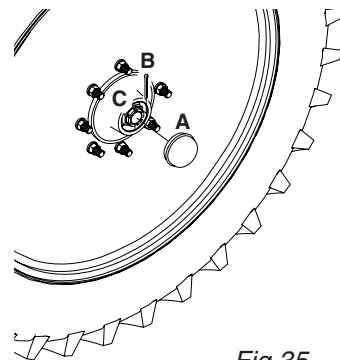

Fig 35
- 4 Remove the hub cap (A Fig 35) and cotter pin (B Fig 35). Turn the wheel and tighten castle nut (C Fig 35) until slight resistance in wheel rotation is felt.